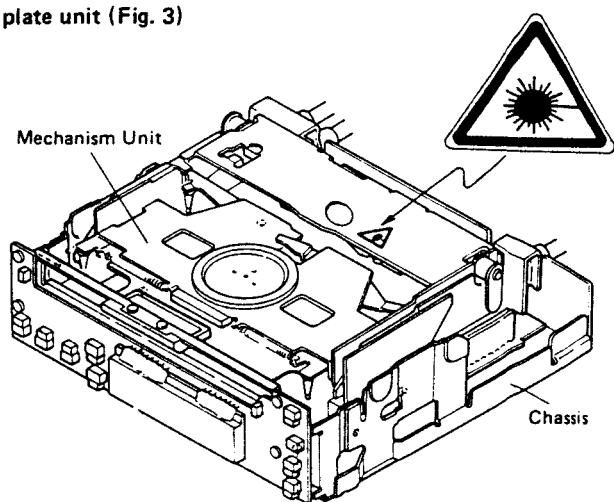

Fig. 3
- The triangular label is attached to the mechanism unit plate unit (Fig. 3)